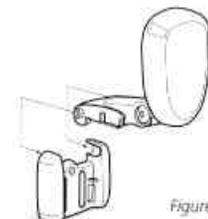

Figure 7
3. Insert the pivot/transducer assembly into the mounting bracket as shown in Figure 7. Do not snap the assembly closed.